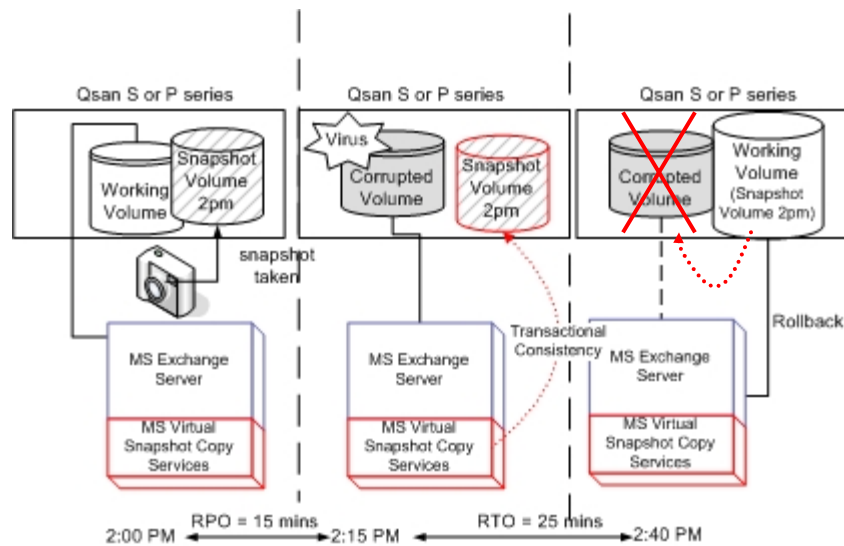

Figure 4.4.1
**Enhance Tech** Snapshot-on-the-box (ESnap) captures the instant state of data in the target volume in a logical sense. The underlying logic is Copy-on-Write -- moving out the to-be-written data to certain location whenever a write action occurs since the time of data capture. The certain location, named as **snap UDV**, is essentially a new UDV, which can be attached to a LUN thus provisioned to a host as a disk just like other ordinary UDVs in the system. **Rollback** function restores the data back to the state of any point in time previously captured for whatever unfortunate reason it might be (e.g. virus attack, data corruption, human errors and so on). Snap UDV is allocated within the same VG in which the snapshot (ESnap) is taken, we suggest to reserve **20%** of VG size or more for snapshot (ESnap) space. Please refer to Figure 4.4.1 for snapshot (ESnap) concept.